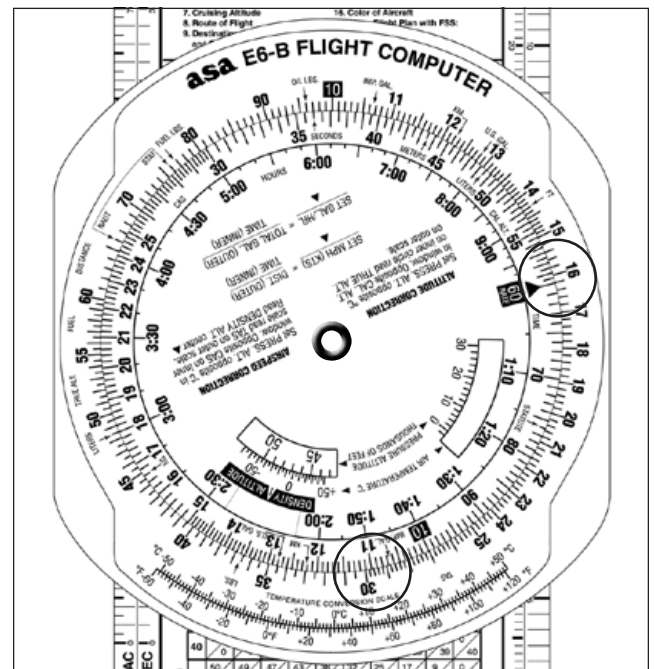

Figure 9-16. Determining rate of consumption on the E6-B
2. Over the 60-index (inner scale), read 16.2 gallons per hour (outer scale). See Figure 9-16.